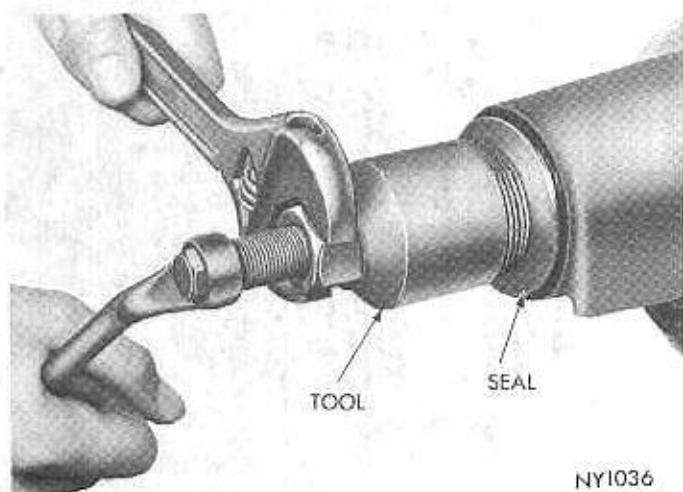

Fig. 10—Removing Pinion Oil Seal
(7) Using Tool C-748 remove drive pinion oil seal (Fig. 10). Remove front pinion bearing cone and preload shim.